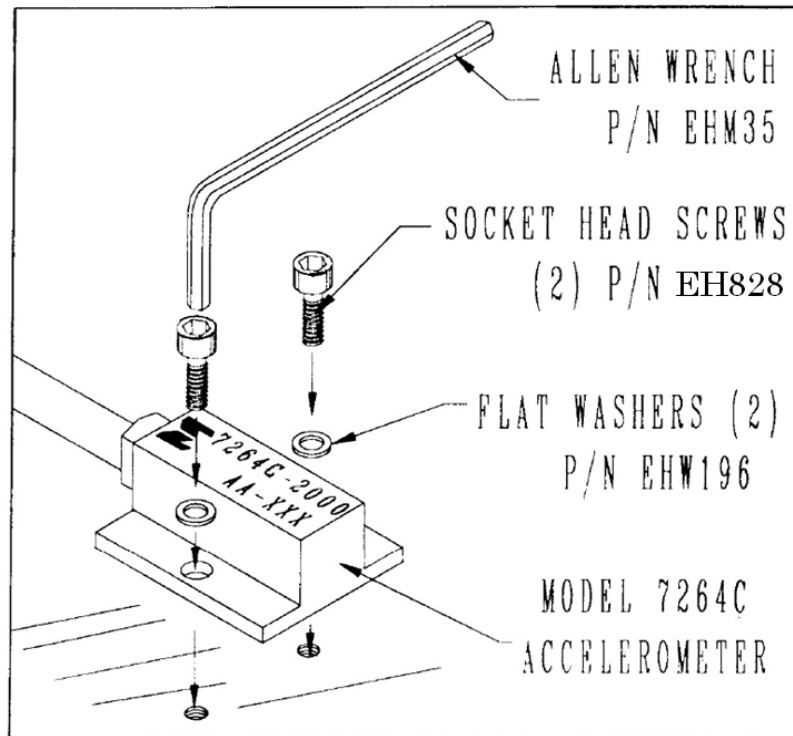

FIGURE 1 - Installation of Model 7264C Accelerometer
2. Do not cement the unit to the mounting structure. Use the supplied mounting washers and screws, as shown in Figure 1.